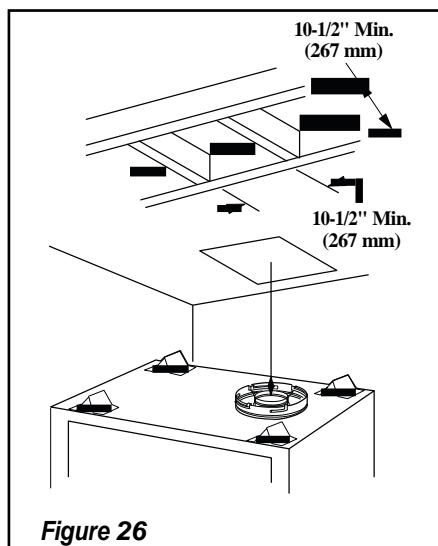

Figure 26
A. Frame ceiling opening - Use a plumb line from the ceiling above the appliance to locate center of the vertical run. Cut and/or frame an opening, 10-1/2" x 10-1/2" (267mm x 267mm) inside dimensions, about this center mark (**Figure 26**).